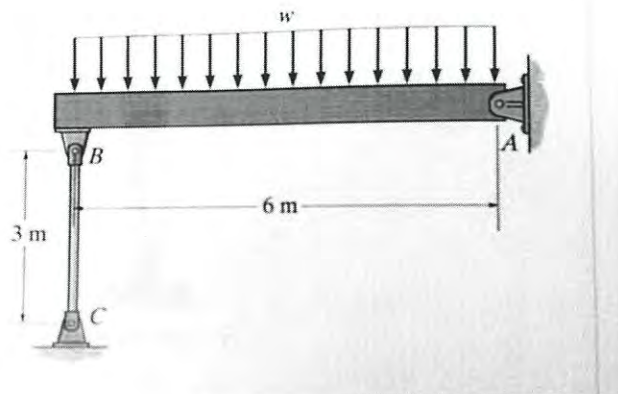

Figure Q3
- Q3** The A-36 steel rod  $BC$  as shown in **Figure Q3** has a diameter of  $5X$  mm ( $X$  is a last digit of your matrix number) and is used as a strut to support the beam. The yield strength of material is  $\sigma_Y = 250$  MPa. Take modulus of elasticity,  $E_s = 200$  GPa.